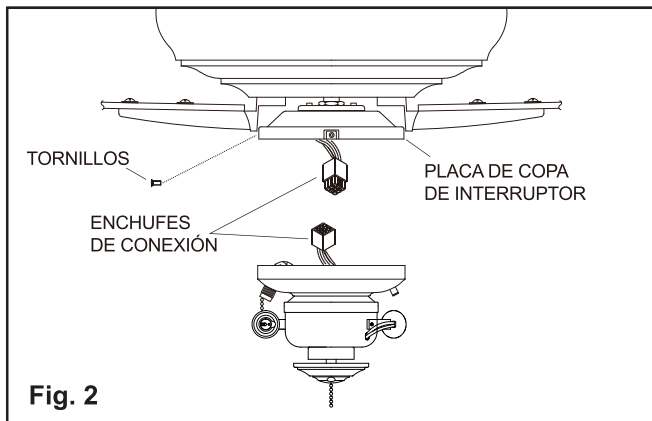

Fig. 2
4. While holding the switch cup, connect the connection plugs from the switch cup and fan, slide the switch cup up against the plate and align the screw holes. Secure the switch cup to the switch cup plate using the screws removed earlier. (Fig.2)